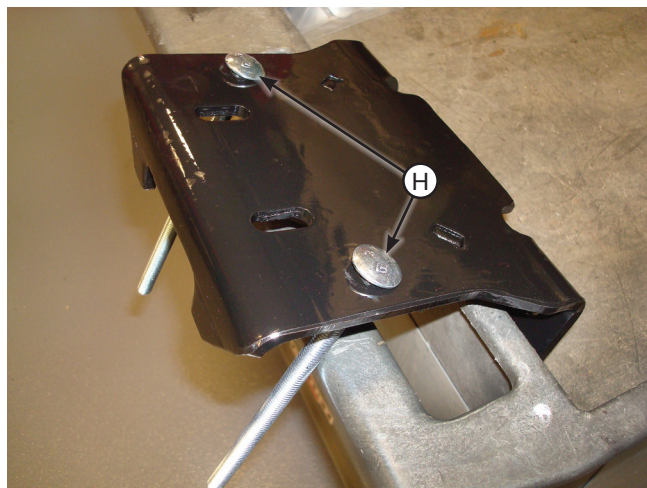

Fig. 9
3. Insert two 3/8"-16 x 7" carriage bolts (H) into the square holes of both lower brackets (D) (Fig. 9).